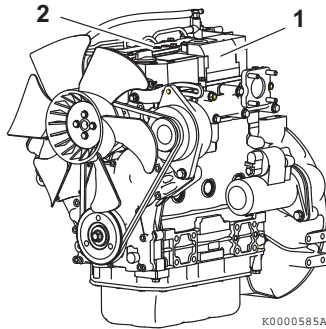

Figure 4
Figure 4 shows the location of regulatory and safety labels on Isuzu C series indirect injection model engine.
The typical location of the emission control information label is shown **(Figure 4, (1))**.
Typical location of the engine nameplate is shown **(Figure 4, (2))**.